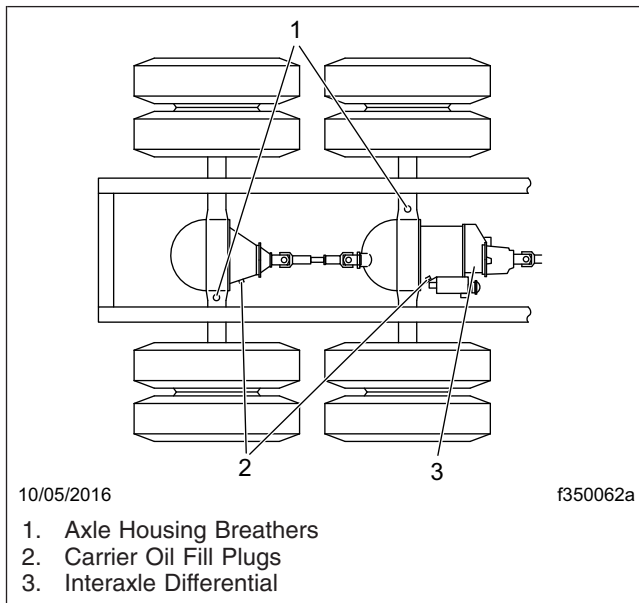

Fig. 7, Meritor Axle Housing Breathers
5. Check the axle housing breather. Make sure that it is open and unclogged. See **Fig. 7**. If the breather is plugged or damaged, clean or replace it as needed.